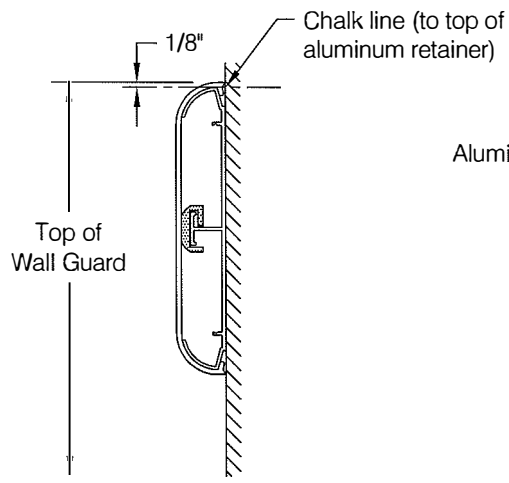

fig 1
- WGVX-6-12-XXX accent strips (5) and textured
- Step 1:** Determine top of wall guard and snap a chalk line 1/8" below to locate top of aluminum retainer, see **fig 1**.